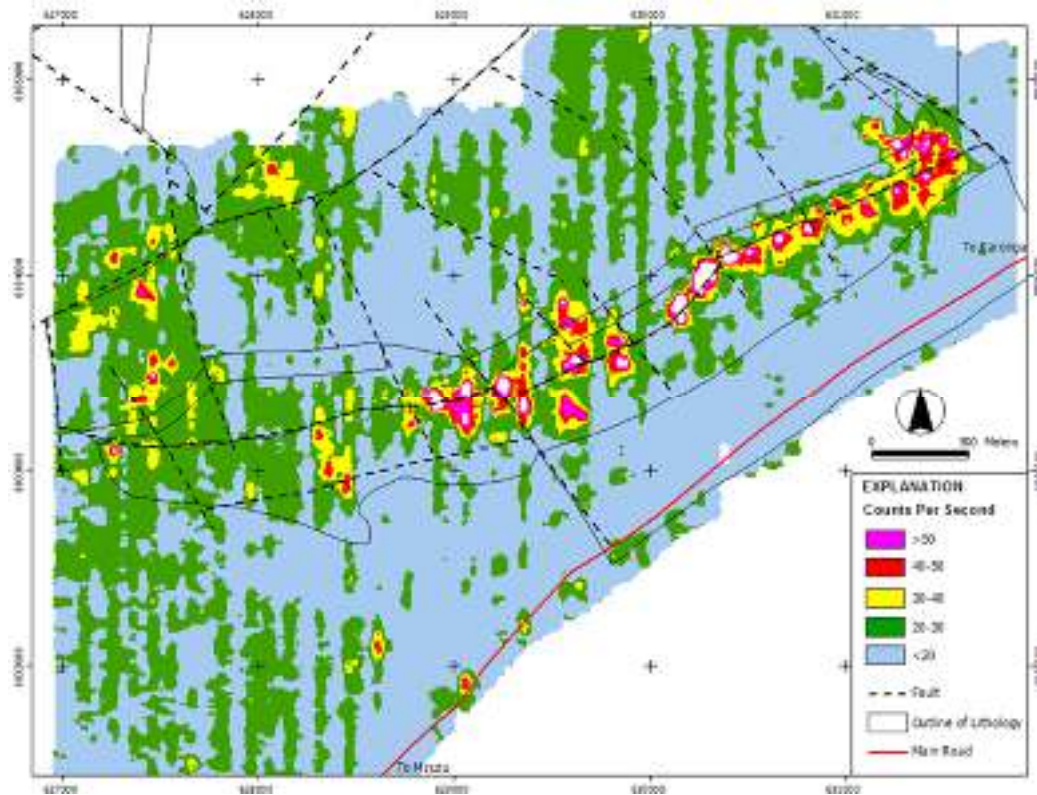

Figure 2: Chilumba Radiometric Survey
In early 2022, Lotus commenced an inaugural exploration drill program at Chilumba. The program consisted of 1,140 metres of drilling in 7 reverse circulation (RC) holes (3 vertical and 4 angled) that were designed to test surface radiometric anomalism (see Figure 2) that had been identified by previous explorers.